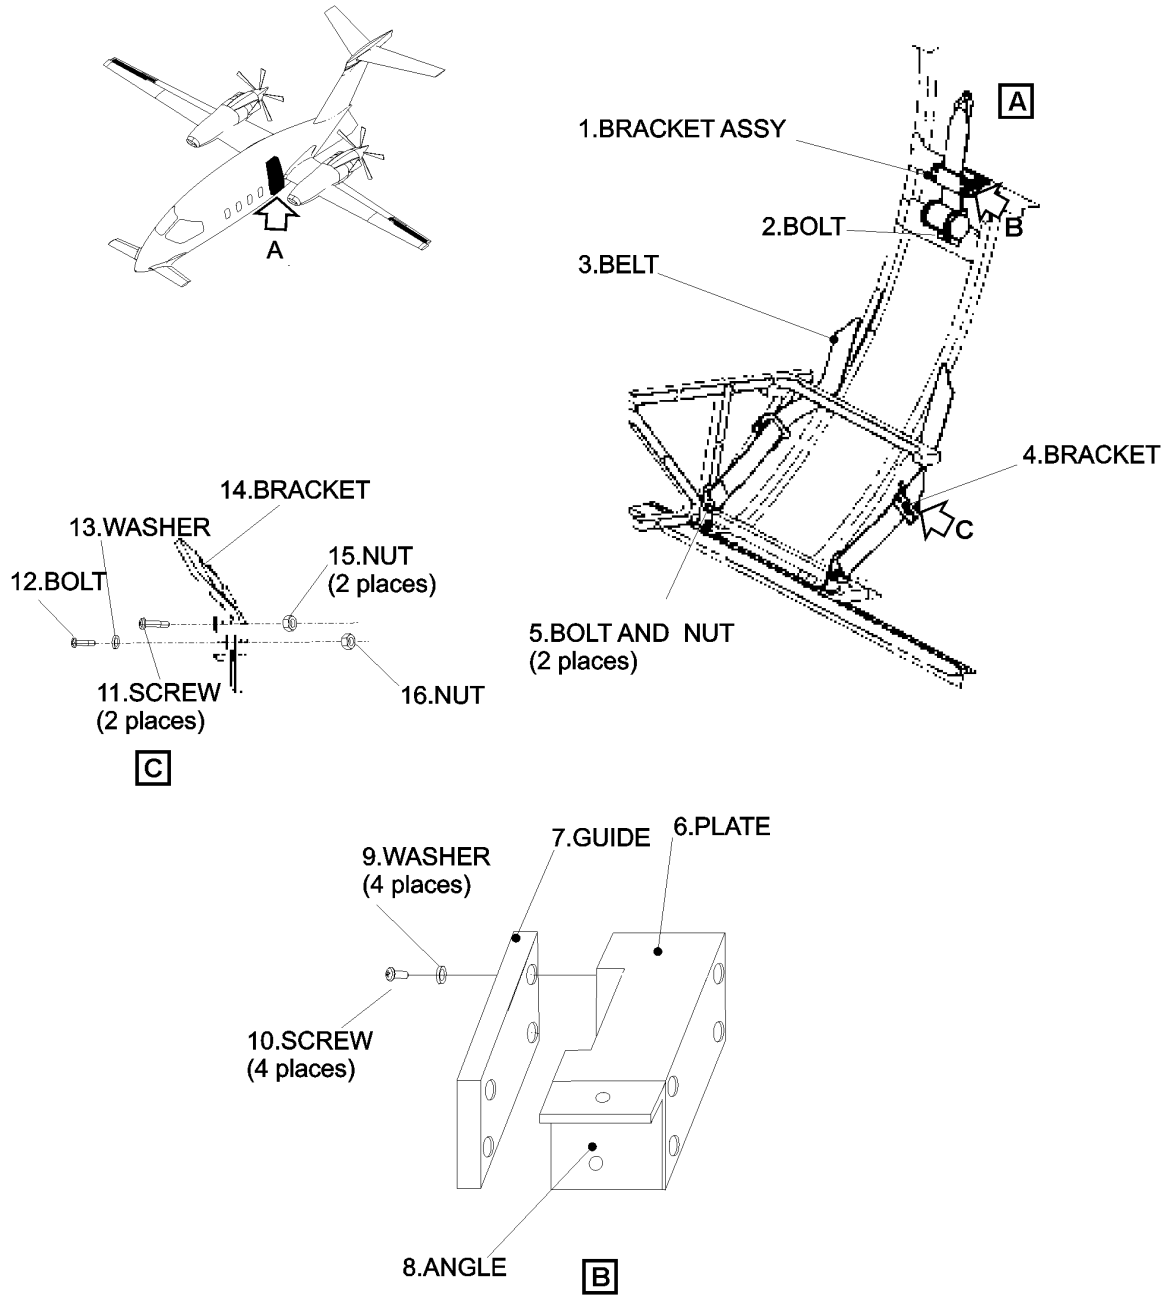

Fig. 251 - Seat belt Toilet - Removal / Installation
39. Seat belt Toilet - Removal (Ref. to Fig. 251)
- (1) Remove the Lavatory Sidewall panel.
- (2) Remove the Toilet seat
- (3) Remove the four screws (10) and the four washers (9). that connect the Guide (7) to the Plate (6)
- (4) Remove the Bolt (2) and remove the seat belt
- (5) Remove the two screws (11) with the nuts (16).
- (6) Remove the Bolt (12) with the washer (13) an the Nut (15)
- (7) Remove the Bolt and the Nut (5) and remove the seat belt.
40. Seat belt Toilet - Installation (Ref. to Fig. 251)